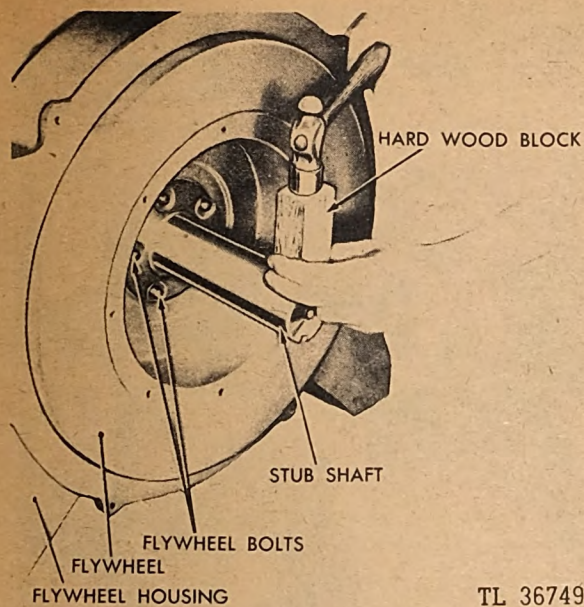

Fig. 97. Removing Stub Shaft
l. *Removing Flywheel and Stub Shaft.* (1) Unscrew the five flywheel nuts holding the stub shaft and flywheel to the crankshaft. Tap the stub shaft with a hardwood block and hammer, tapping it around the shaft until the pilot on the end of the stub shaft has been worked out of the flywheel. (See Figure 97.)